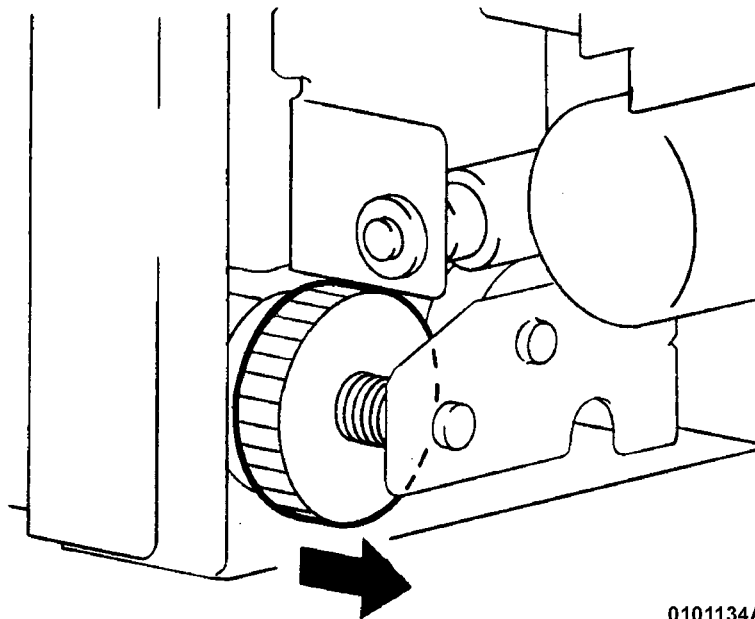

Figure 1 Moving Gear to Lower Stack Tray
2. Hold Stacker Tray and move Gear to lower the Stack Tray (Figure 1).